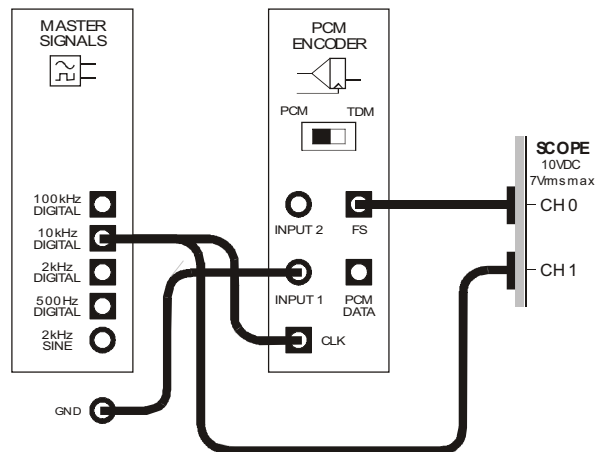

Figure 2
9. Connect the set-up shown in Figure 2 below.